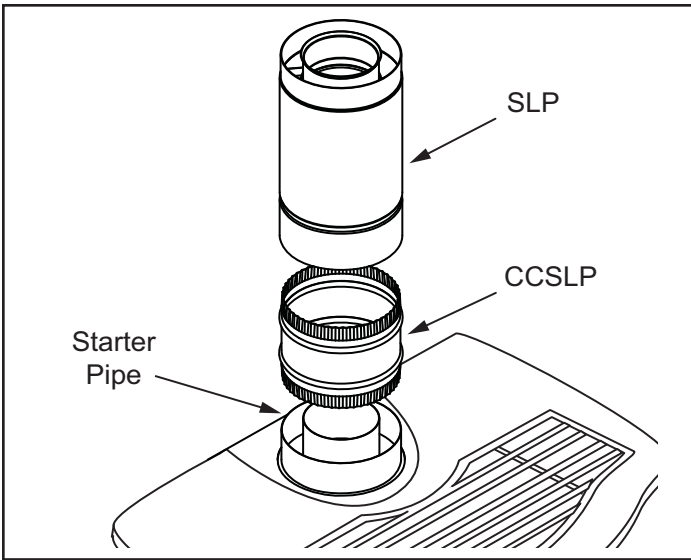

Figure 3.2 - Attach inner assembly to flue collar.
4. Place a 3/8" bead of sealant around the 4" crimped end of the starter collar on the stove. Stove cement is provided in the manual bag for this purpose. Attach the SLP pipe to the adapter, and secure by aligning adapter and pipe seams, pressing down firmly until pipe stops, and twisting to lock into place, Figure 3.2.
- Install the vent system as described in Figures 3.2 thru 3.9.